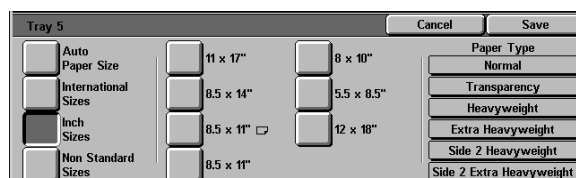

Figure 29: Tray 5 Inch Sizes
- Touch **Inch Sizes** and select one of the standard US sizes, such as 8.5 x 11 or 11 x 17 inches, as shown in Figure 29.